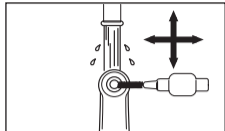

Fig. 15
- 2) Clean around the bur insertion hole for 15 seconds or more, using an interdental brush (wire thickness 0.7mm) that conforms to size 4 in ISO 16409 (Fig. 15).